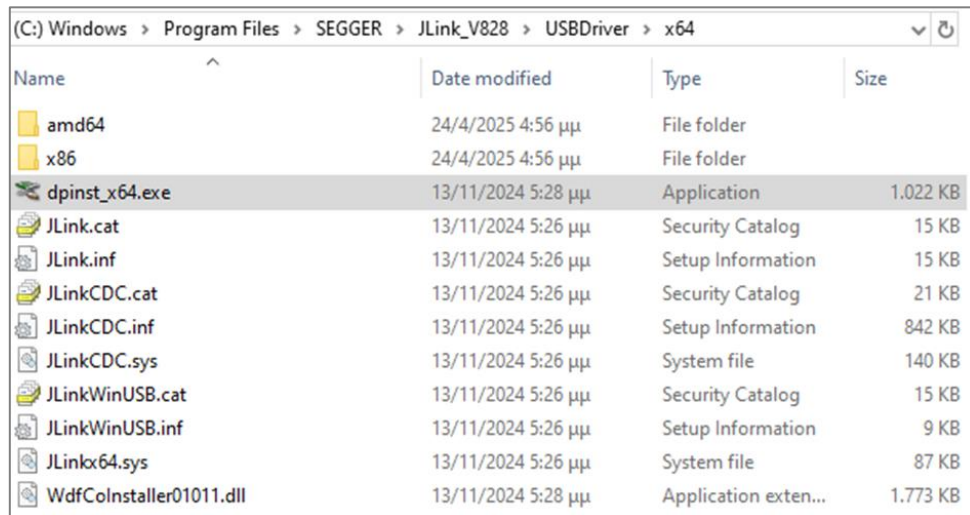

Figure 18. Jlink driver installer
- **Segger J-Link driver** – can be installed as part of the Segger J-Link Application installation. You can download the driver from <https://www.segger.com/downloads/jlink/>. If the installer is launched from a restricted account, you need to run the driver installer manually as an administrator. The driver installer is in the installation folder of the JLink application. (Figure 18).